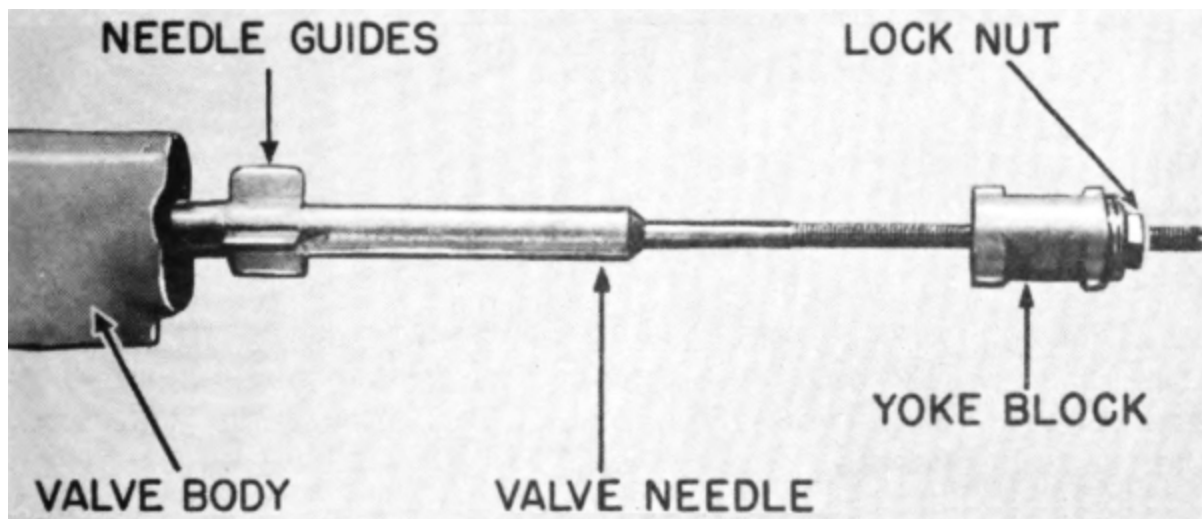

Fig 50. Valve needle, yoke block, and lock nut ready for installation in fuel-valve body.
(1) To install valve needle, screw the yoke block and lock nut on the needle (Fig 50). Insert needle in valve body and barrel.